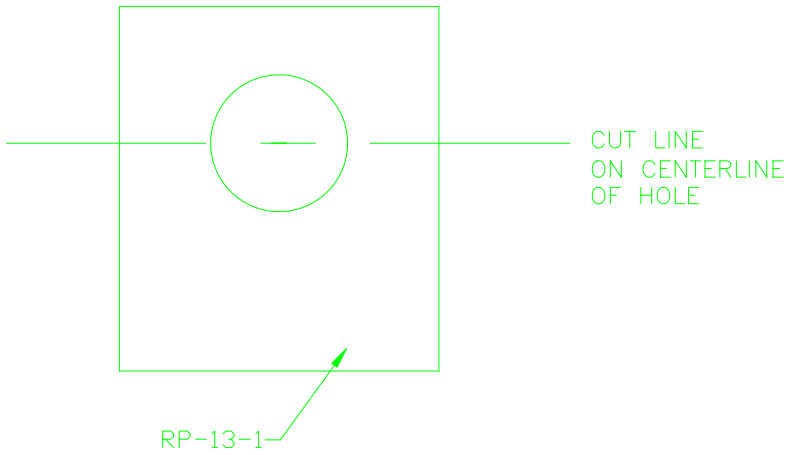

FIGURE 4
- 6) Cut two RP-13-1 (Delrin Bearings) in half. Figure 4.